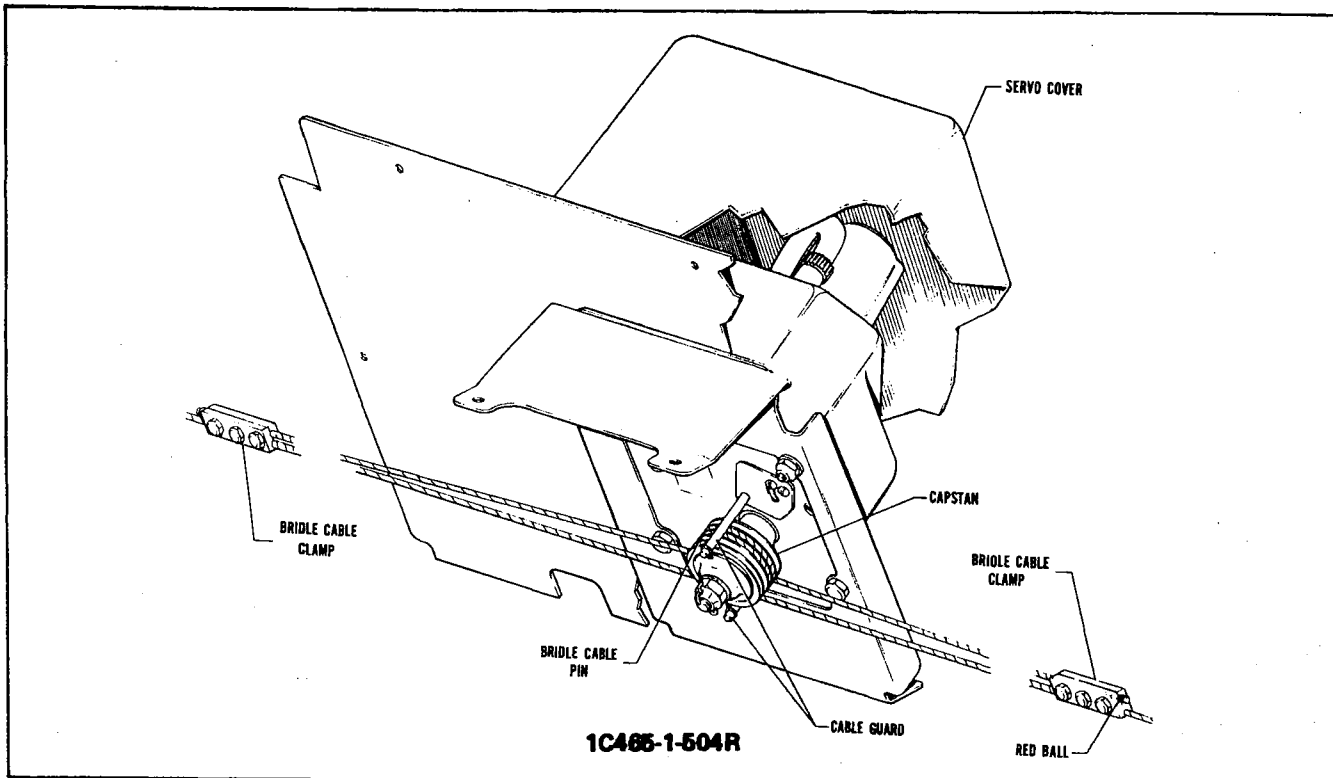

Figure 3-16. Roll Servo Installation, PA-23-250 (Six Place)
3-14. INSTALLATION OF ROLL SERVO. (PA-23-250 (six place), Serial Nos. 27-7554001 and up.) (Refer to Figure 3-16.)
- f. **REFER TO FIGURE 3-13 AND CHECK THAT CONTROL CABLE TENSION (Z) IS ADJUSTED TO 40 +8 -0 POUNDS PRIOR TO ATTACHING THE BRIDLE CABLE CLAMPS.** Ascertain area on cable where clamp attaches is clean, dry and free of all lubricants and anti-corrosive additives. Attach the bridle cable to the aileron balance cable. The bridle cable is drawn to the balance cable and attached with clamps at the previously painted locations on the balance cable. The end of the bridle cable with the red ball extends toward the right side of the airplane. (Refer to Figure 3-16.) (Should the balance cable not be painted, position the control wheel in neutral and align the bridle cable pin, installed in the capstan, in the up position.) Adjust the bridle cable clamps so the bridle cable tension (Y) is equal to the control cable tension between the bridle cable clamps (X) as shown in Figure 3-13 without increasing the control cable tension from the bridle cable clamps outward. At no time shall the bridle cable tension be greater than the control cable tension between the clamps. Adjusting the bridle cable tension will lower the control cable tension between the two bridle cable clamps. Torque the bridle cable clamp bolts to 55 ± 5 inch-pounds.